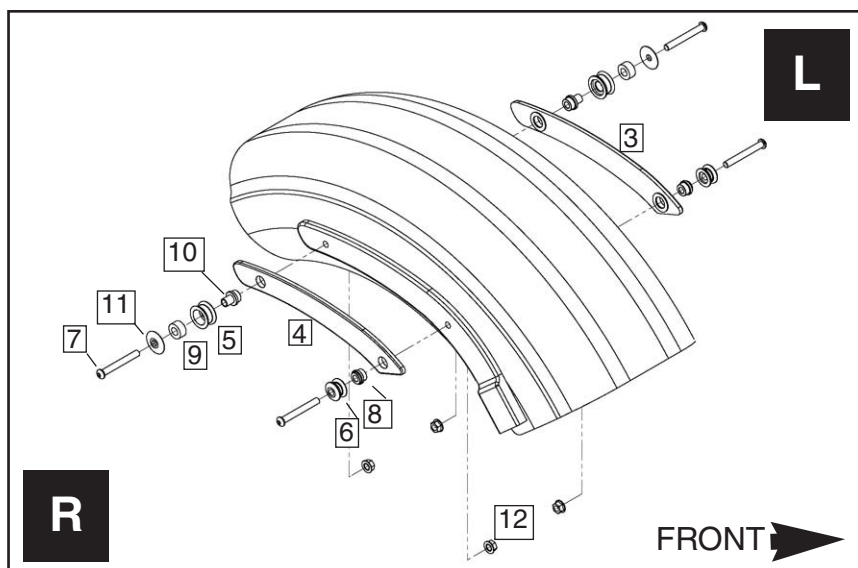

Figure 1
2. Assemble front and rear spool assemblies into the right eyebrow (4), through the fender and secure with wizlok nut (12). Do not fully tighten. This will allow some movement which aids in the side plate installation. **(5mm Hex Wrench 13mm Wrench and Thread Lock) Figures 1 and 2**